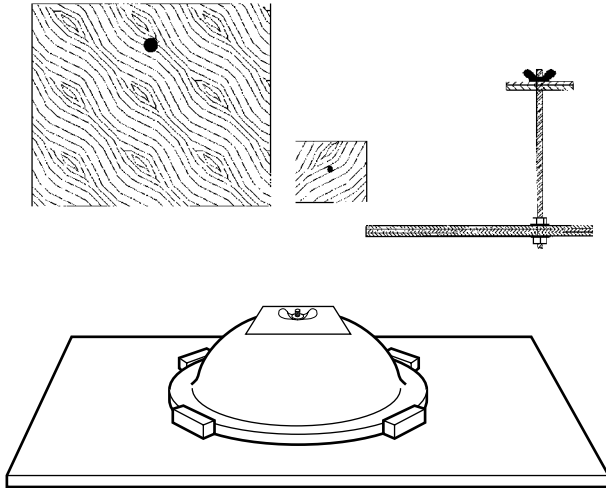

Figure 30
- Clamp the bowl to the sheet by placing a pipe clamp through the drain hole (see Figure 30) or use a bowl clamping jig. Heavy weight, such as 50-lb. bags of salt, can also be used.